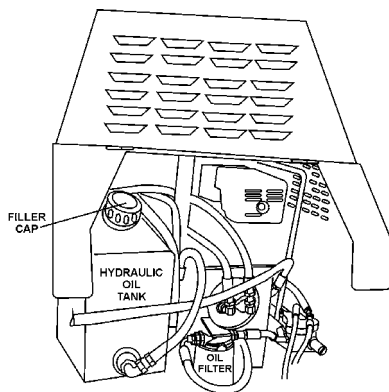

Figure 24. Hydraulic Oil Tank Filler Cap
3. To gain access to the hydraulic oil filler hole (Figure 24), the tub (bucket) must be put in the dump position (vertical). Start the engine as outlined in the starting procedure, then place the tub in the dumping position.